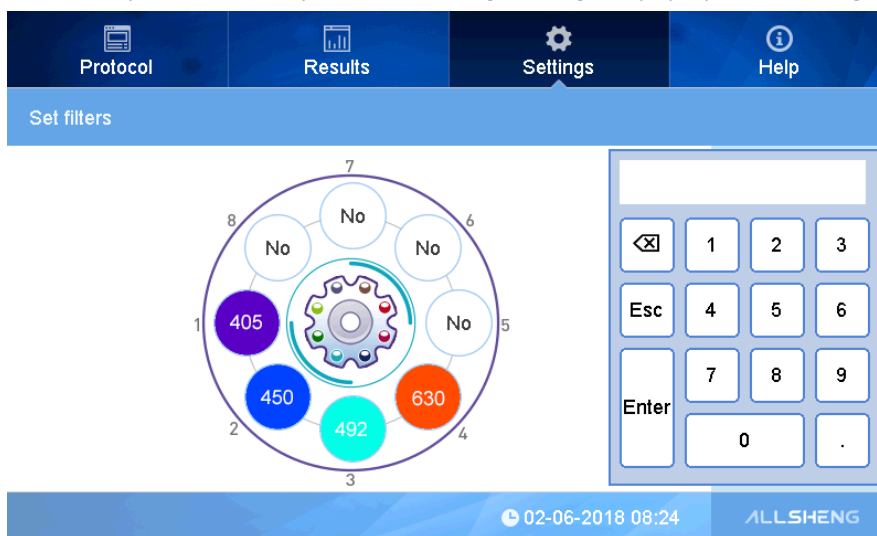

Fig 49
- ② Click the blank position No., input the wavelength using the pop up window (Fig 49).